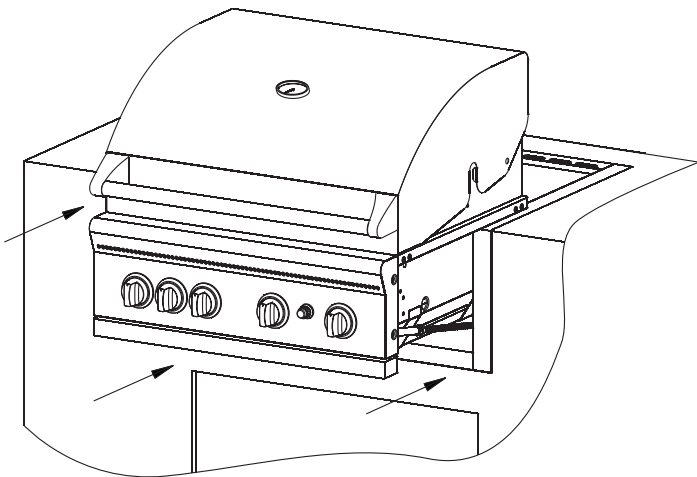

Figure 3
3. Slide grill head with flex gas line attached into surround. Make sure flex gas line is protruding out surround side. See **Figures 3 and 4**.